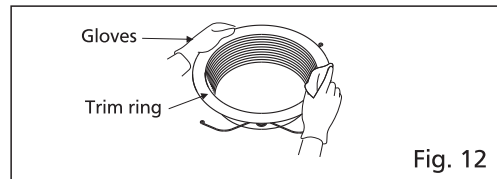

Fig. 12
2. Clean the trim ring. (Don't put into hot water. Use non-abrasive kitchen detergent, wipe dry with clean cloth.) (Fig. 12)